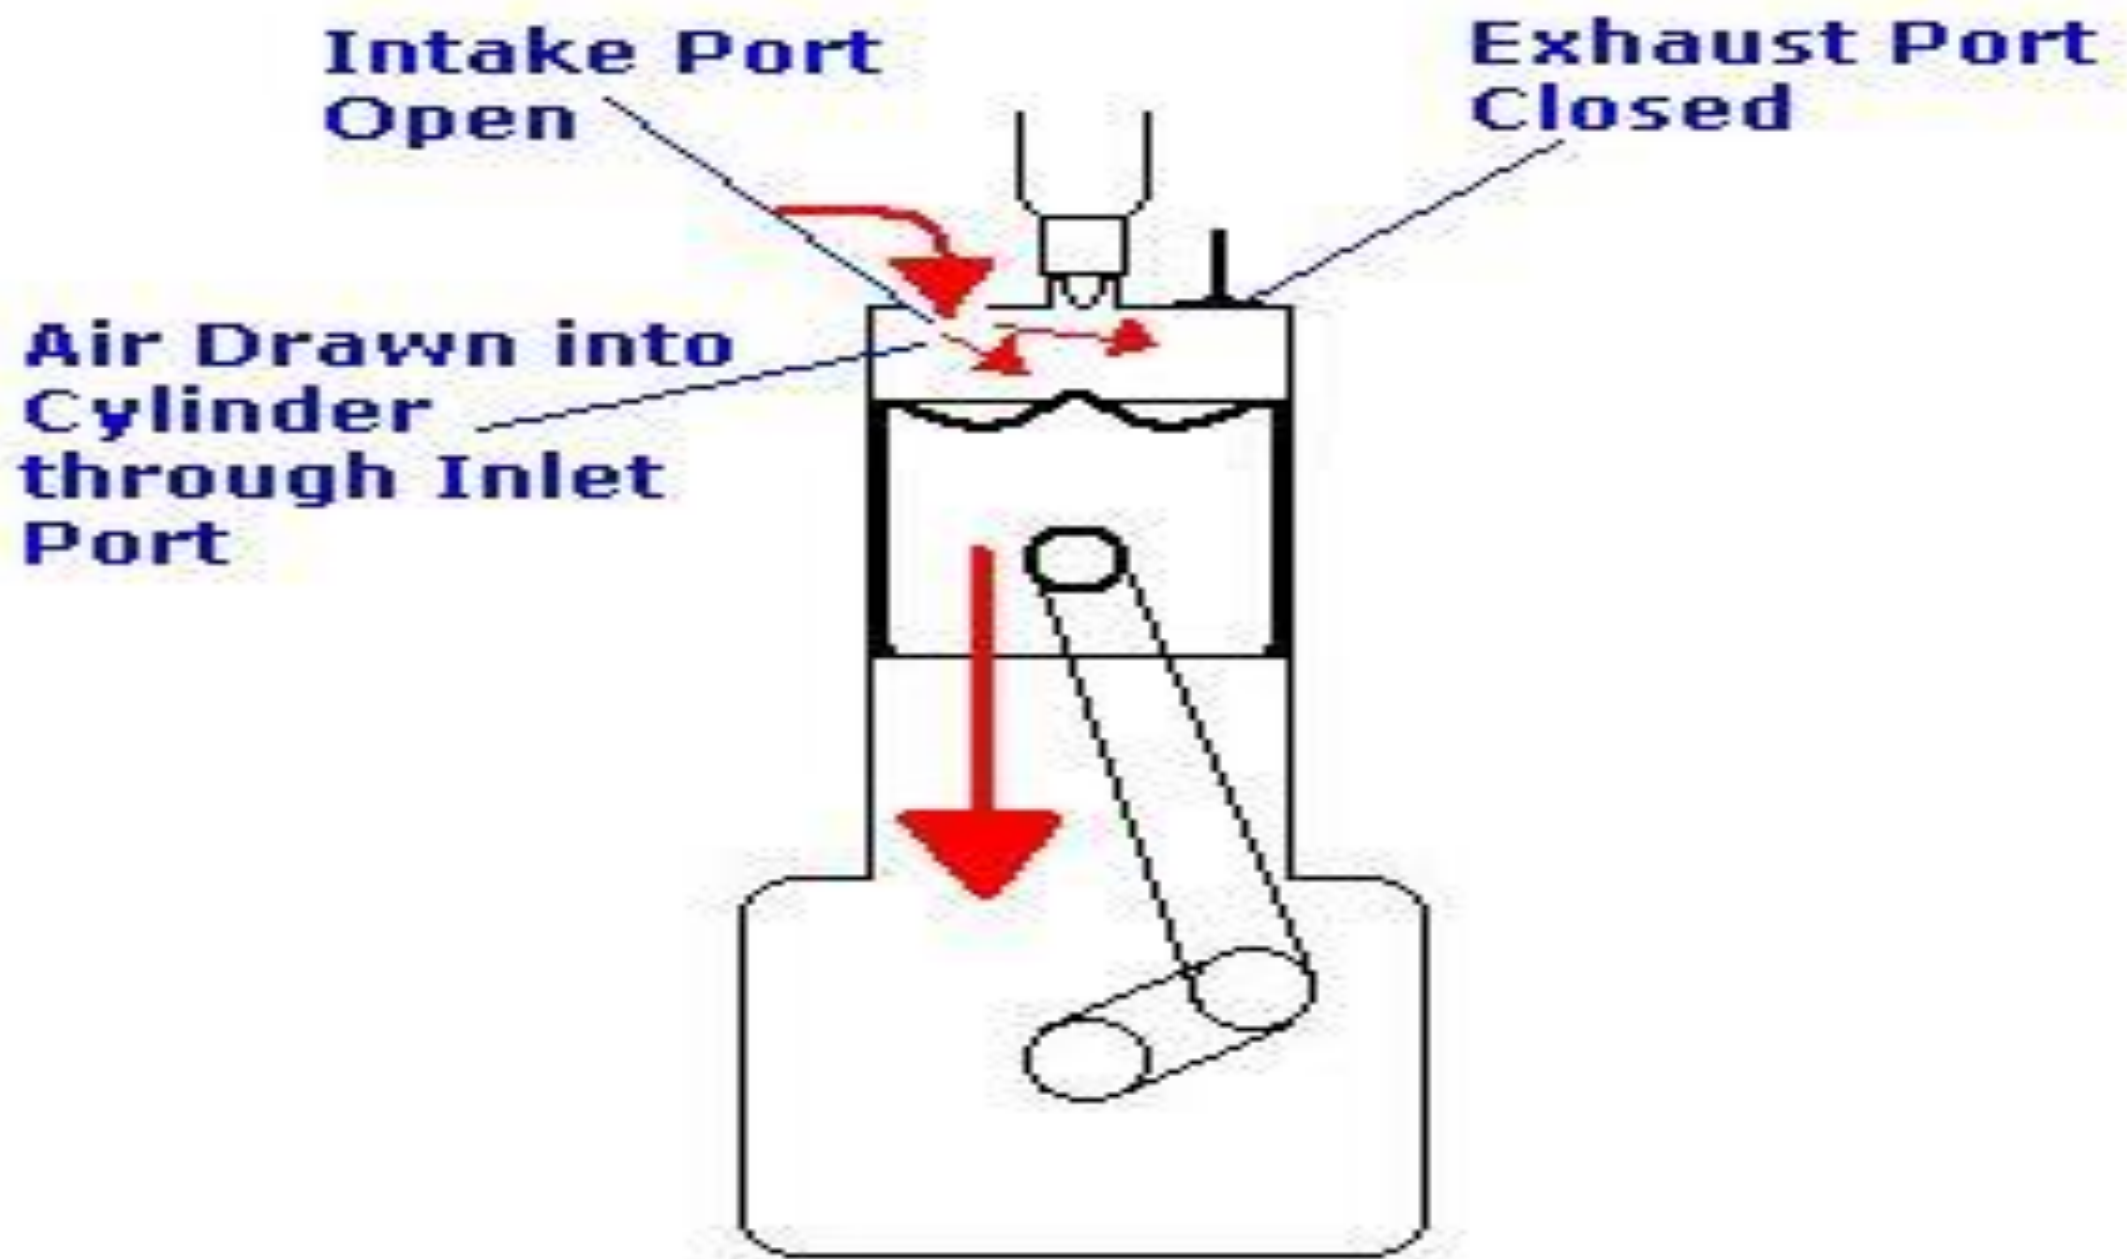

Figure10:Suction stroke
- **Intake/Suction Stroke :** The same as the intake stroke in an SI engine with one major difference : no fuel is added to the incoming air, refer figure 10.